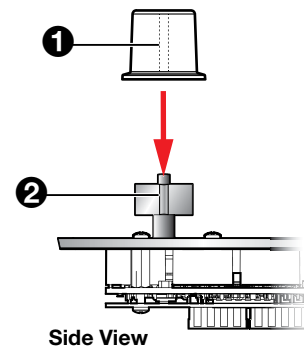

Figure 4. Replacing the knob on EBP 100 or EBP 200
3. Align the ridge inside the new knob (figure 4, ①) with the channel on the knob control (②) and allow the magnet in the knob to snap into place.